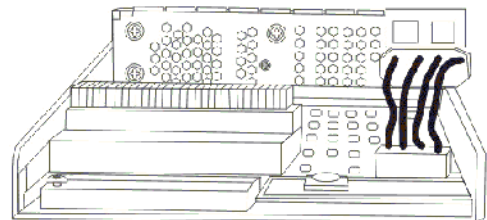

Figure 8: Place the MUX Kit at the Rear of the Drive Tray.
Step 4: Insert the three available retention screws from the bottom of the drive tray. These screws will firmly secure the MUX kit to the drive tray and facilitate the installation of the appropriate drive. The MUX kit should be mounted as shown in *Figure 8*.